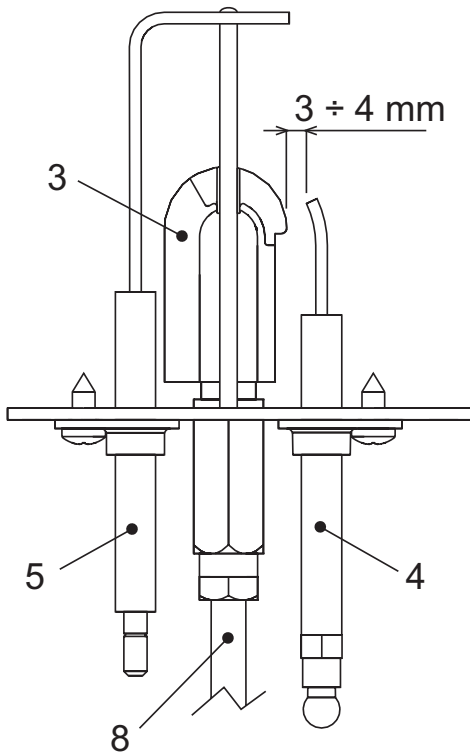

fig. 12 -
- The electrodes must be free of scale and properly positioned (see fig. 12).
- Make sure the electrodes are correctly positioned and free of any deposits (see fig. 12).